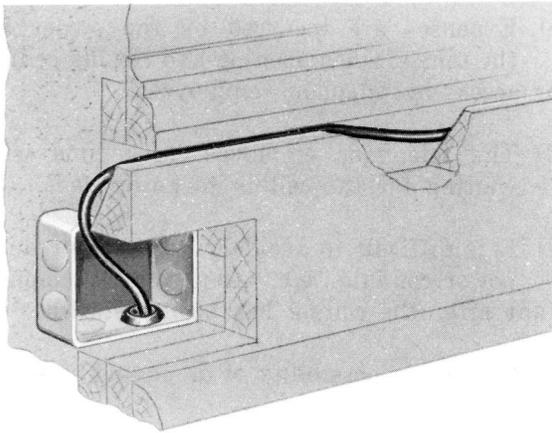

Fig. 5—Wiring From Conduit to Baseboards
- (a) Run wires along baseboards or on door or window casings so they will be as inconspicuous as possible (Fig. 5 and 6).